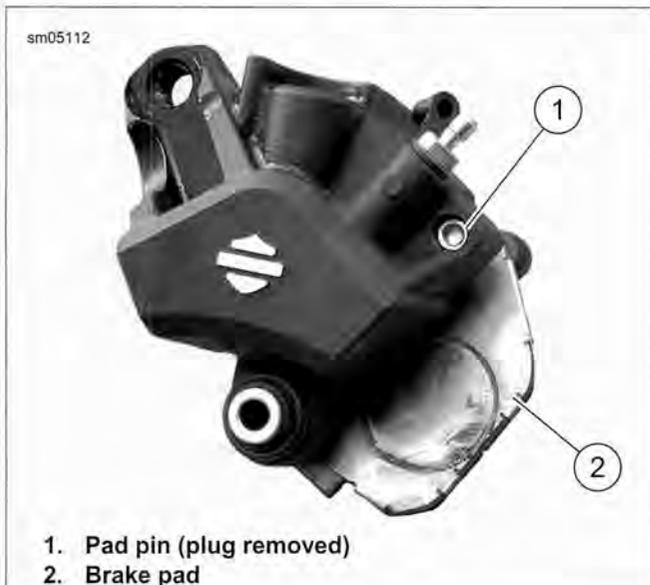

Figure 2-103. Pad Pin
1. See Figure 2-103. Remove brake pad pin plug to expose brake pad pin (1). Remove brake pad pin and pads (2).